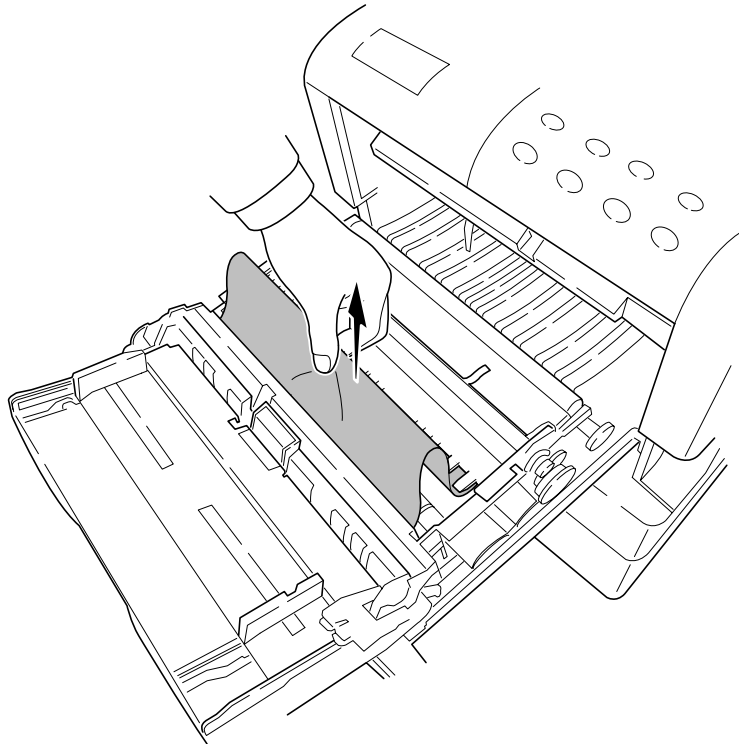
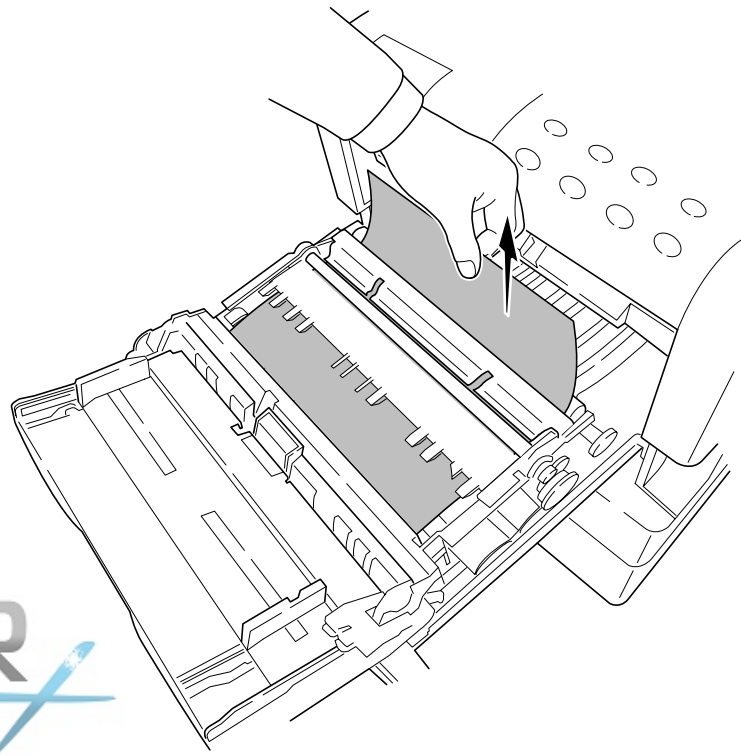

Figure 6-1-5 Jam in the printer (1)
Figure 6-1-6 Jam in the printer (2)
2. If paper is jammed before the registration roller, remove it as shown figure 6-1-5. If paper jammed under the registration roller, remove it as shown in figure 6-1-6.